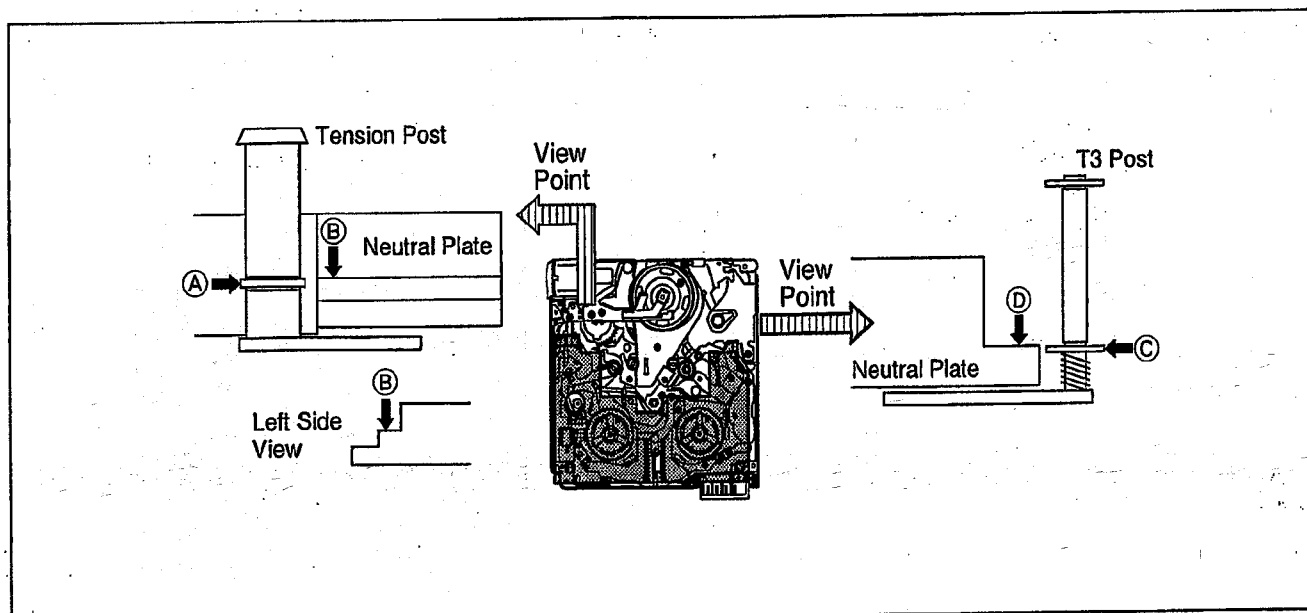

Fig. A11
3. Adjust the Tension Post so that the lower flange (A) point become same height level to the top surface (B) of 2nd step of the Mechanism Plate as shown in Fig. A11.
4. Adjust the T3 Post so that the lower flange (C) point become same height level to the top surface (D) of the Mechanism Plate as shown in Fig. A11.